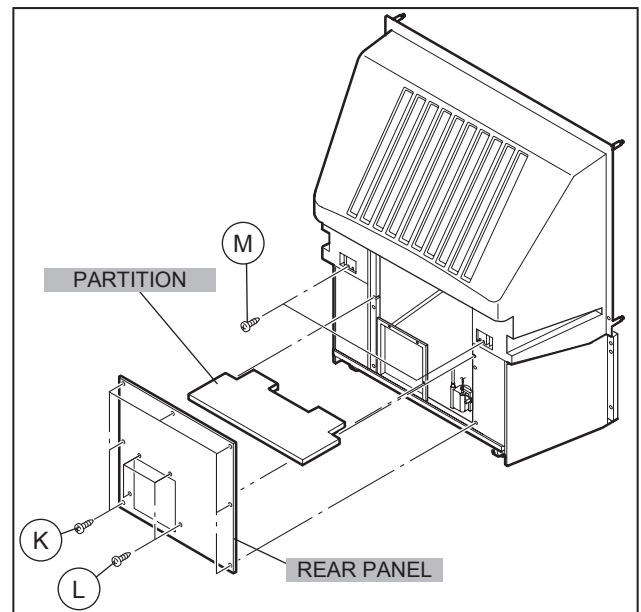

Fig.5
- (1) Remove 2 screws [M]. (Fig.5)
- (2) Remove 2 screws [N] from front side.
- (3) Slightly pull for backside to disengage of the REAR COVER from hooks.
- (4) Take out the REAR COVER.